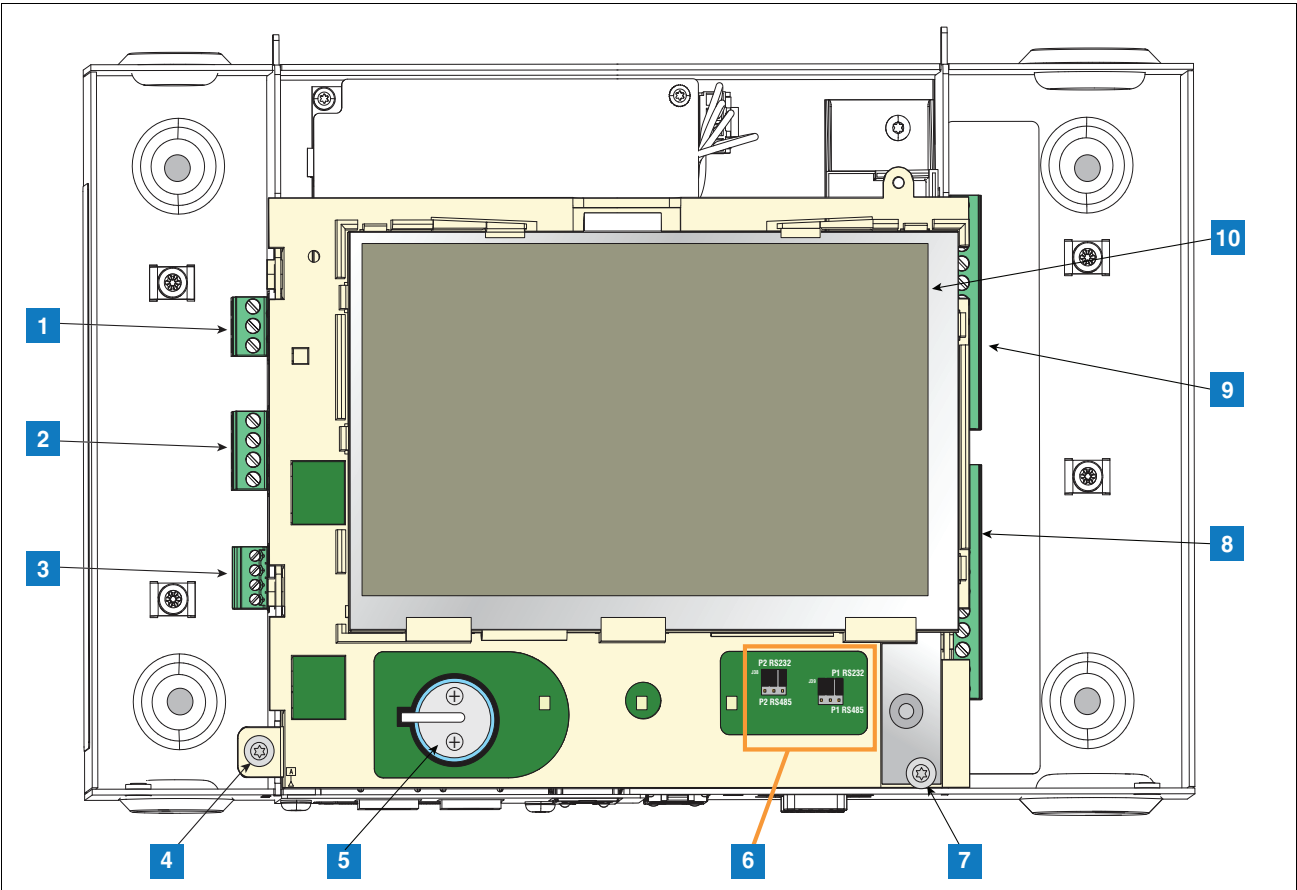

Figure 2. Component Locations (Front Cover Removed)
LEGEND FOR NUMBERED BOXES IN Figure 2
3. Remove the T15 #8 x 0.3125 screw (Item 4 in Figure 2) and the T20 #8 x 0.875 screw (Item 7 in Figure 2) securing the Display/CPU assembly to the console and set them aside. Slide the Display/CPU assembly up as far as it will go and tilt out the bottom of the assembly to access the short 20-pin cable connecting the Display/CPU assembly to the USIOM board in the console. Disconnect the cable plug from its USIOM board socket by pressing against the vertical locking lever in the middle of the plug as you lift it away from the socket.
2. Locate the backup battery beneath the display (Item 5 in Figure 2).